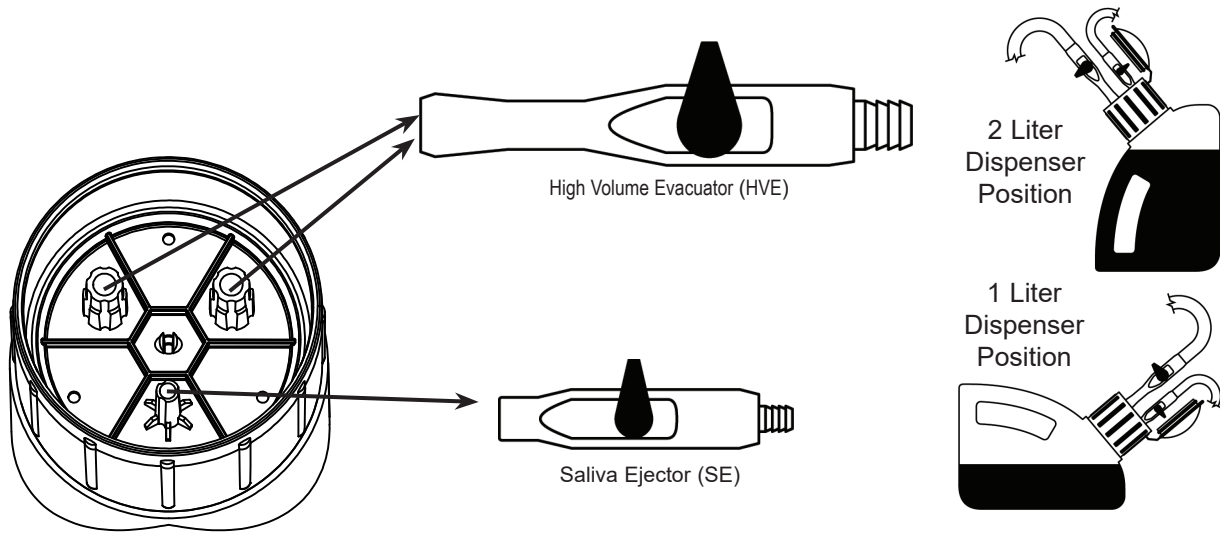

Figure 13. CleanStream Dispenser Cap Adaptor Locations
3. As shown by Figure 13, the interior of the CleanStream dispenser bottle cap is configured with three holes for the insertion of HVEs and SEs via provided adapters as follows.
4. Refer to Figure 13 and place dispenser in the 2-liter vertical position or the 1-liter horizontal position as necessary.